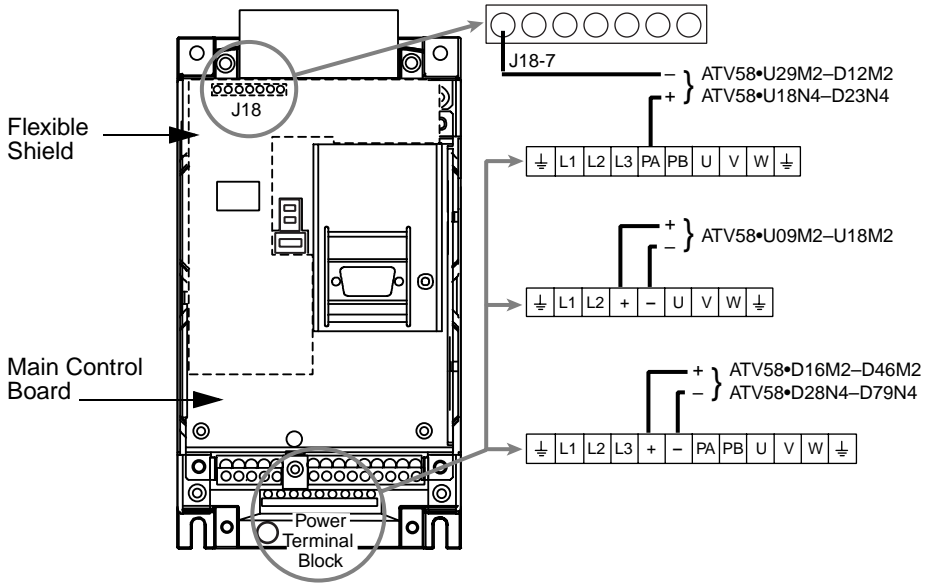

Figure 1: DC Bus Voltage Measurement Point Locations (ATV58HU09M2 shown)
The DC bus voltage level is determined by monitoring the (+) and (–) measurement points. Their location varies by drive controller model number as listed in Table 2 and shown in Figure 1. The drive controller model number is listed on its nameplate.
3. Read the model number of the drive controller from the nameplate and identify the corresponding (+) and (–) measurement points from Table 2 and Figure 1 (on page 5).